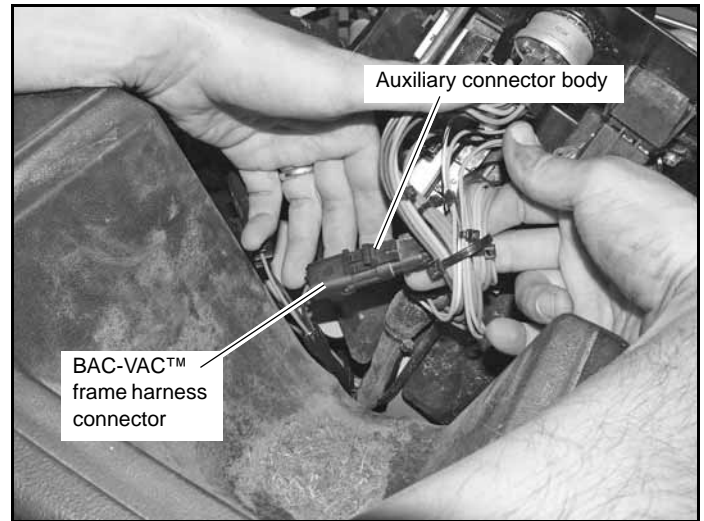

Figure 3-11
5. Plug the BAC-VAC™ frame harness connector into the auxiliary plug. Figure 3-11